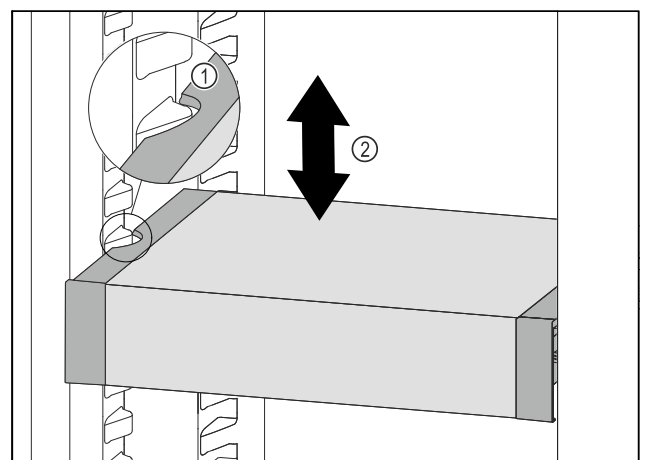

Fig. 92
- ▶ Pull VarioSafe forwards until the recesses in the side of the VarioSafe are at the level of the support rib in the refrigerator compartment. Fig. 92 (1)
- ▶ Move VarioSafe up or down in the refrigerator compartment until the desired height is reached. Fig. 92 (2)